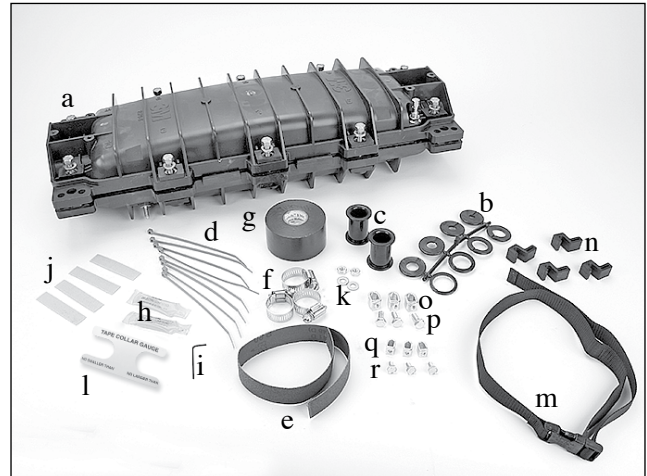

Figure 1
4.1 3M™ Fiber Optic Splice Closure 2178-S and 2178-S/FR Kit Contents (Figure 1):